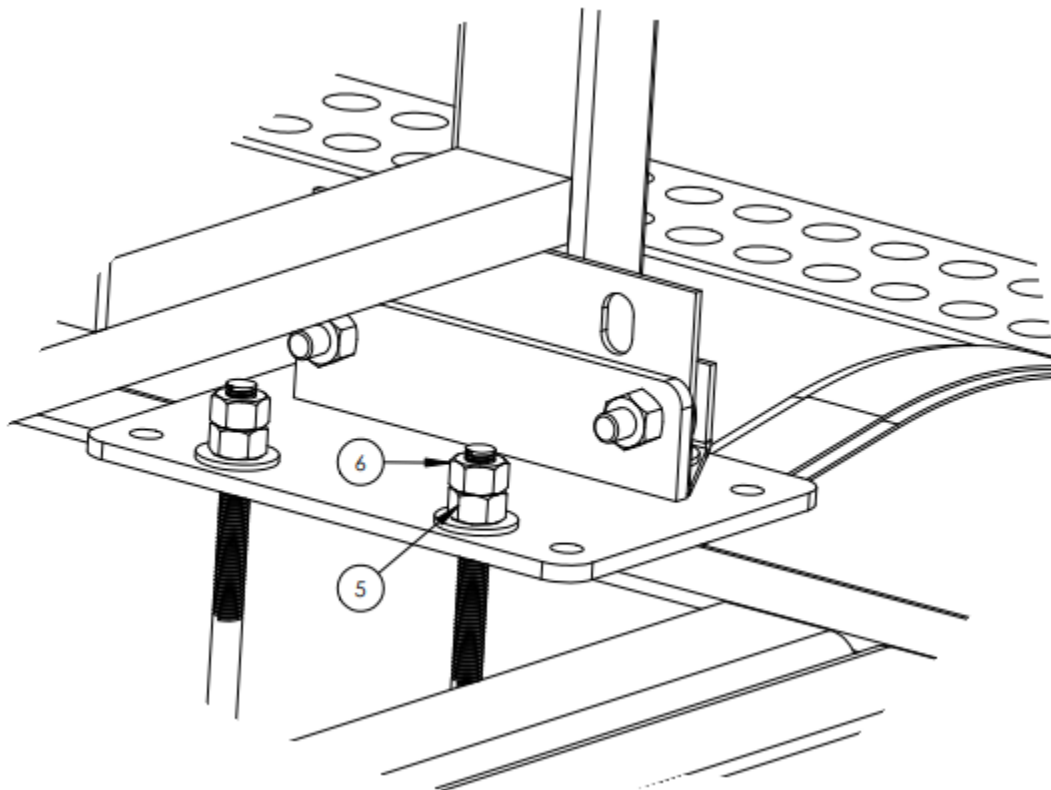

Figure 5 – U-Bolt Fastening
Once all u-bolts are in position, double check gantry frame location. Tighten down nuts (5) on u-bolt evenly to ensure the u-bolts are clamped evenly, see *Figure 5*. Use a ratchet and socket until tight, then torque each bolt to 150 ft-lbs. To prevent backoff, turn on one nylock nut (6) to each u-bolt leg and tighten against hex nut. Dual Stage Gantry U-Bolt kits will use 2 sets of hex nuts. It is recommended that after 3-months of use these bolts are re-torqued to account for any stretching.